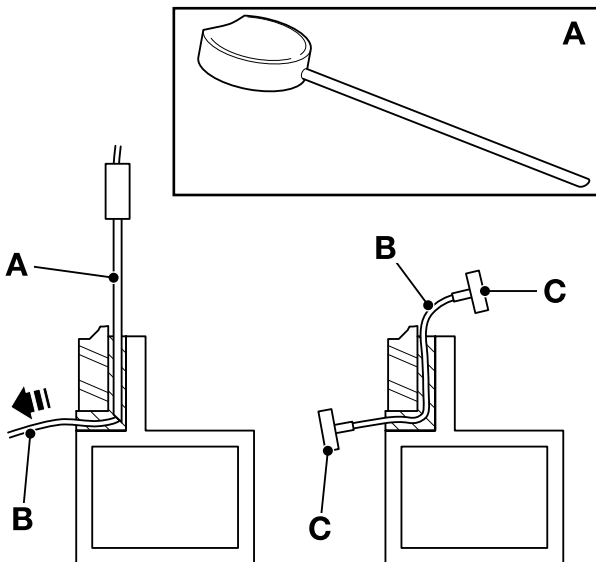

Fig 5. Braided Cutting Wire and Handles
- b Braided Cutting Wire and Handles.** → Fig 5. (□ B-37). This method uses a 3-core wire, a wire starter tube and two handles.